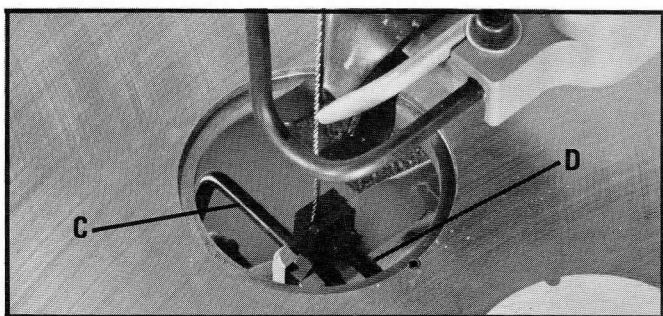

Fig. 18
6. With pin (C) still inserted in hole in lower blade holder, place blade in holder until back edge of blade contacts screw and tighten blade holder screw using wrench (D) Fig. 18.